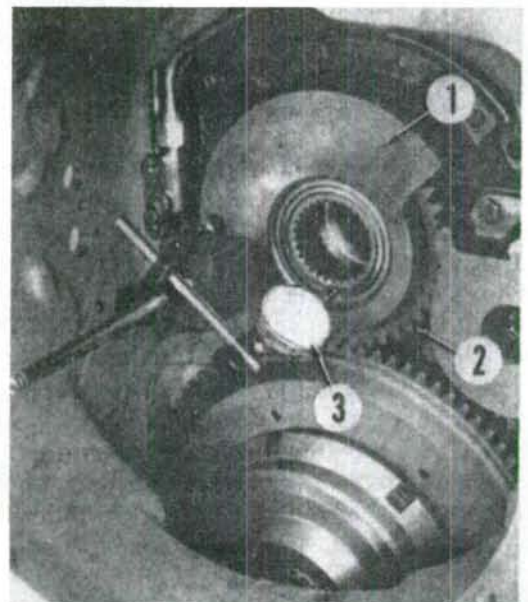

**Fig. 198—Use a dial indicator (3) to check end play of pto drive gear (2).**
Reinstall oil tube (21) and oil trough (20) using new copper washers on trough retaining screws. Install oil pump and tighten retaining screws to a torque of 20 ft.-lbs. (27 N·m). After 10 minutes, retorque oil pump cap screws to 20 ft.-lbs. (27 N·m). If pto drive gear (2—Fig. 198), bearings or support (1) were renewed, check and adjust end play as follows: